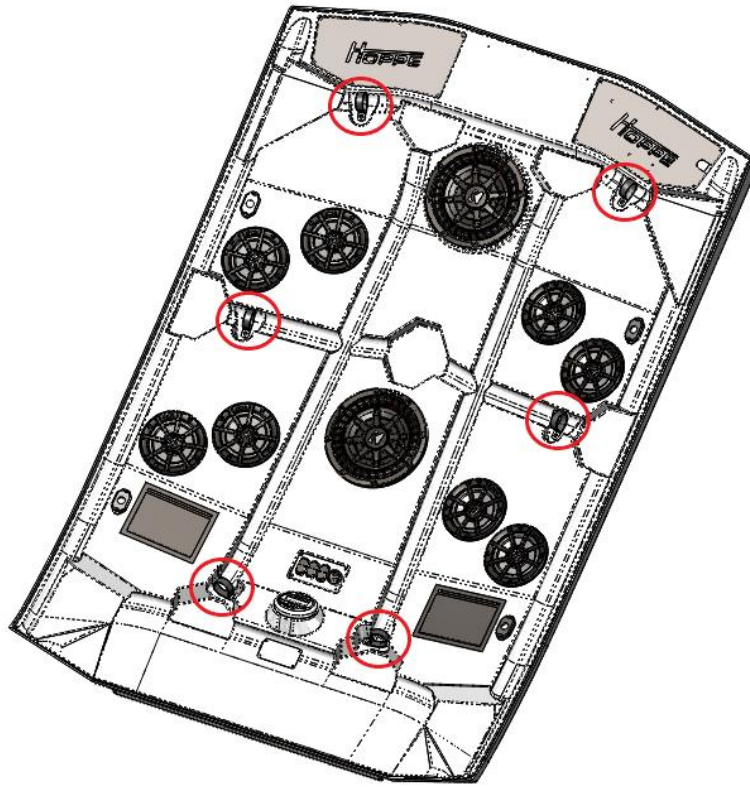
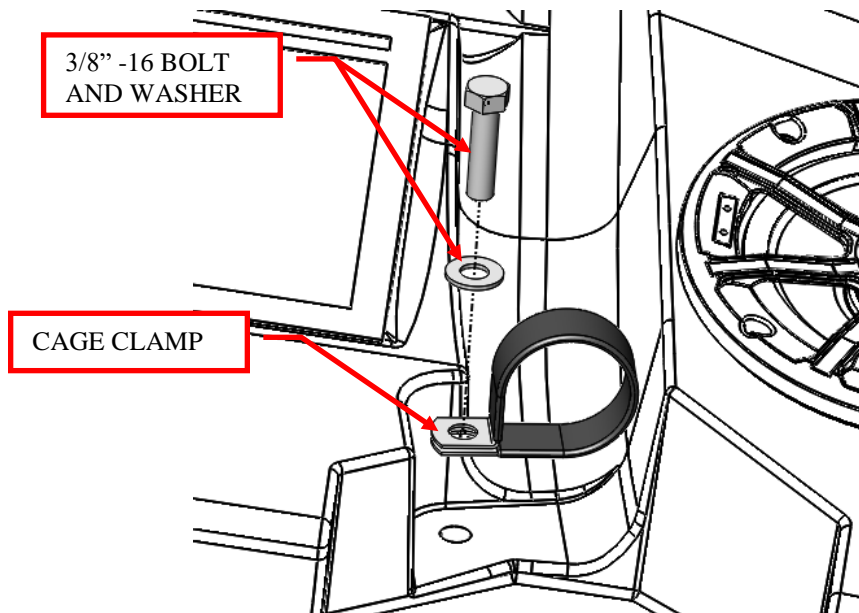

Figure 3: Remove the 6 clamps from the top.
Figure 4: Close up of cage clamp hardware.
1. Remove the cage clamps and 3/8”-16 bolts and washers that come pre-installed on the top. Save the hardware for installation. See Figure 3 and Figure 4.
4. Slide the clamps into position so they line up with the threaded holes in the top. For all 6 clamps, install the 3/8-16 x 1 1/4" bolt with washer through both clamp tabs and into the threaded hole in the top. Use blue Loctite 243 (medium strength) and torque the bolts to 25 ft.*lbs. See Figure 4.